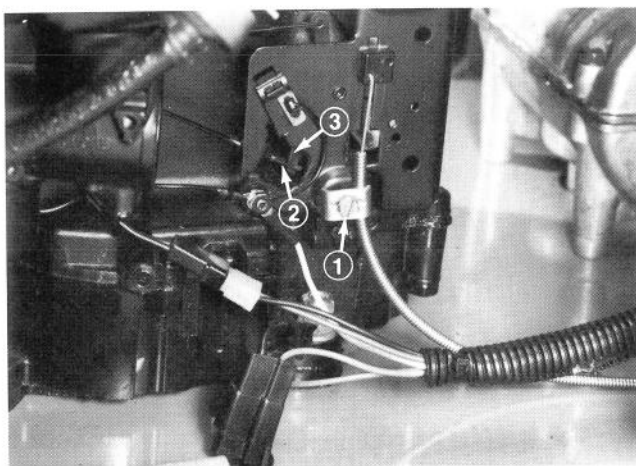

Figure 18
3. Move remote control lever to FAST position. The butterfly should be in the fully open position (Fig. 18).
2. Loosen the throttle cable clamp screw (Fig. 18) and move the control cable casing and wire until the throttle lever touches link.